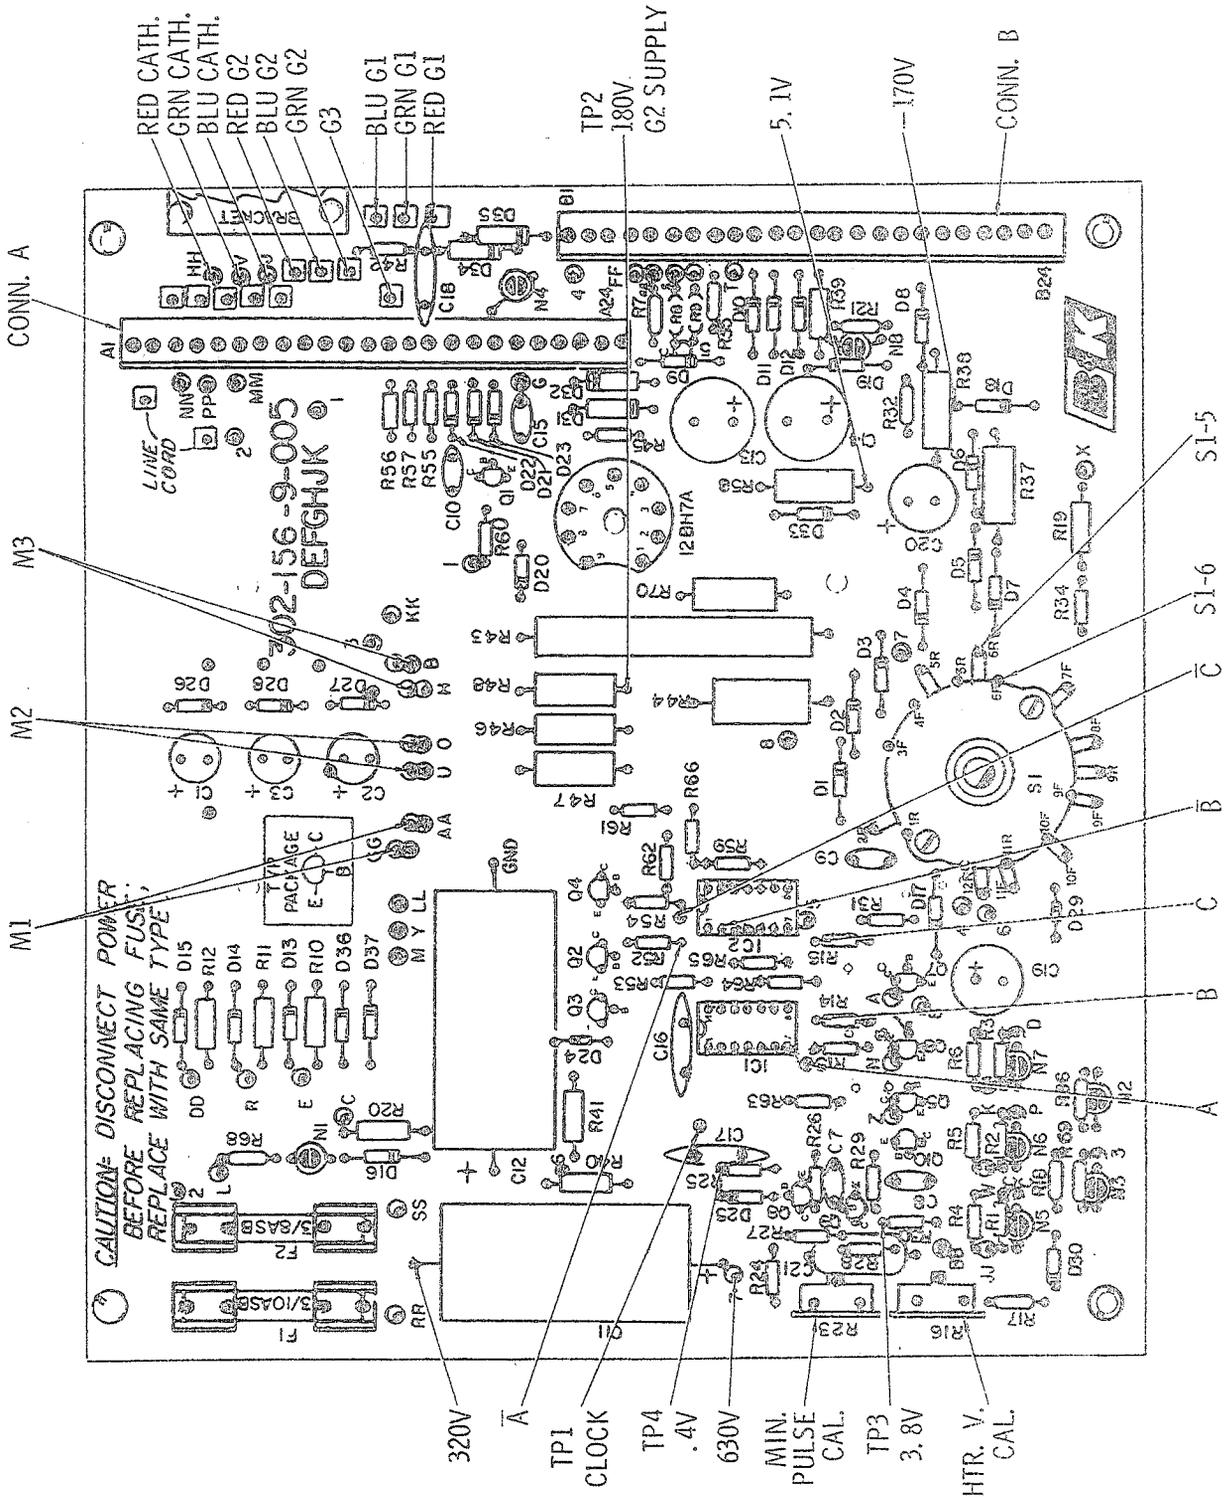

Fig. 2. Printed Circuit Board Layout - Component Side.
Refer to schematic (Fig. 3) and printed board layout (Fig. 2) to determine correct lead identification.
5. Insert neon bulbs N1 thru N8 into their proper lens cap. Refer to the schematic (Fig. 3) and printed board layout (Fig. 2) to determine correct placement of bulbs.
7. Adjust HTR Cal control (R16) on printed board (see Fig. 2 for location) so that HTR voltmeter on tester (Red/B&W) indicates exactly 6.3 volts.
8. Push tracking button and adjust Min Pulse Cal control (R23) on printed board (see Fig. 2 for location) for minimum reading.
All troubleshooting procedures such as voltage measurements, waveform analysis, and adjustments can be made from the bottom side of the printed circuit board. See Fig. 2 for location of voltage and